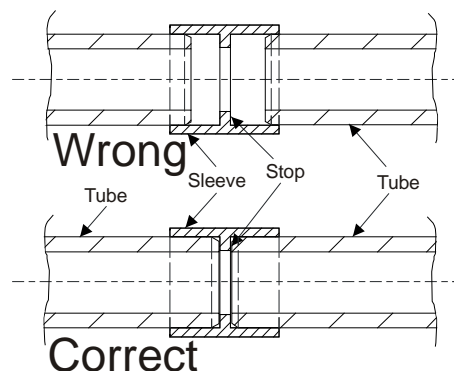

Fig. 20 Assembling the tubes
- The individual tube sections are connected using fittings. Depending on the tube material used, use either the adhesive process described in Sec. 5.5.2 and 5.5.3 or the pressing process described in Sec. 5.5.4. The tubes are pushed into the fittings as far as the stop, **Fig. 20**.